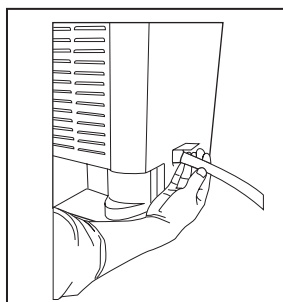

fig. 2
- d. Insert the female threaded end of the hose through the opening. (fig.2)